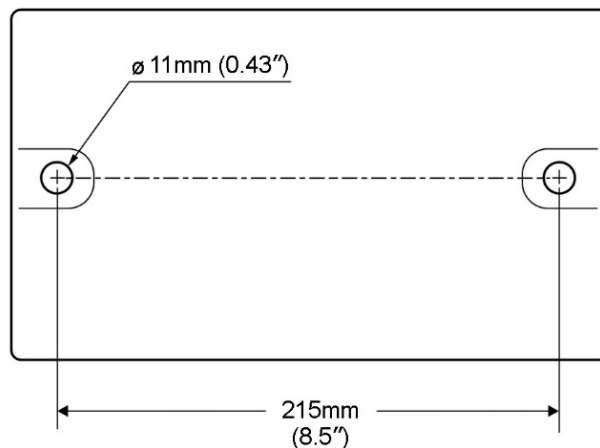

Figure 4-1 Base mounting holes, all models
1. Align mounting holes on sander with predrilled holes in bench or pedestal. Figure 4-1 shows hole centers for mounting.